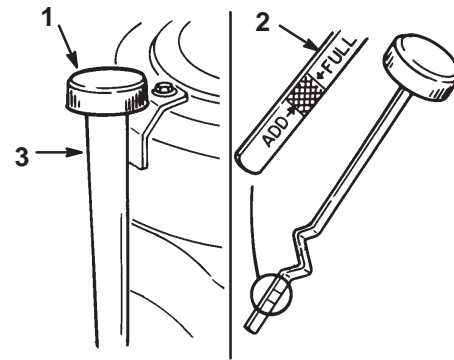

Figure 26
2. Clean around the oil dipstick (Fig. 26) so dirt cannot fall into the filler hole and damage the engine.
3. Unscrew the oil dipstick and wipe the metal end clean (Fig. 26).
4. Thread the oil dipstick fully onto the filler tube (Fig. 26). Pull the dipstick out and look at the metal end. If oil level is low, slowly pour only enough oil into the filler tube to raise the level to the full mark.
5. Slowly pour approximately 80% of the specified oil, page 25, into the filler tube (Fig. 26). Now check the oil level; refer to Checking Oil Level, page 25. Slowly add additional oil to bring to full mark on dipstick.